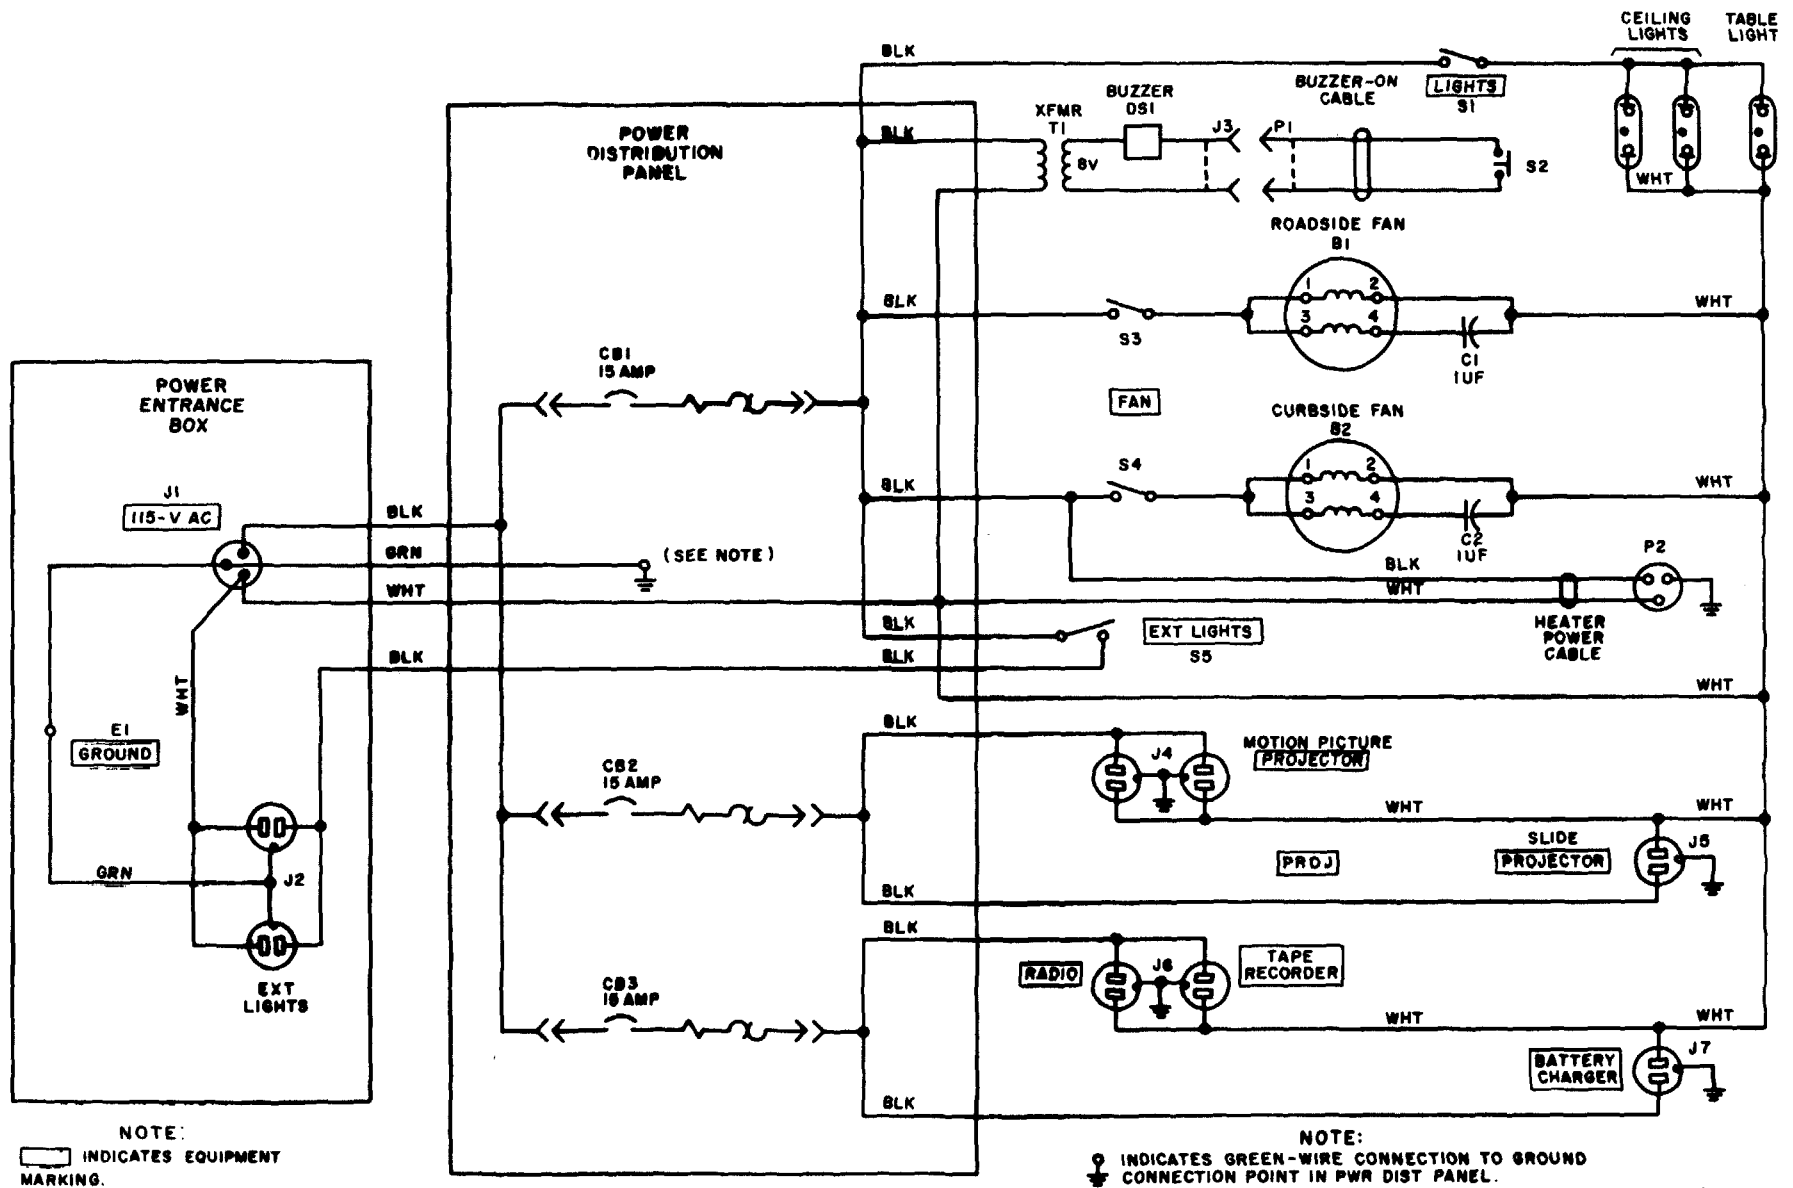

Figure 5-1. Shelter ac power distribution diagram.
(fig. 5-1)
c. Figure 5-1 shows how main circuit breakers CB1, CB2, and CB3 in the power distribution panel control power to separate circuits in the shelter. Throughout the shelter, switches control ac power to the lights, the fans, and the slide projector outlet, and the external light outlets in the power entrance box.
(a) Turn on main power circuit breaker switch CB2 or CB3 used in the circuit (Fig. 5-1).